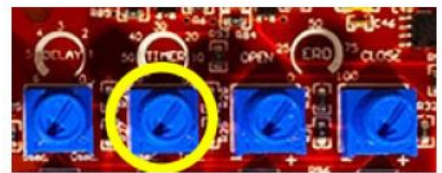

Figure 25
2. On the gate operator circuit board, adjust the delay by turning the second blue knob from 0-60 seconds. Figure 25